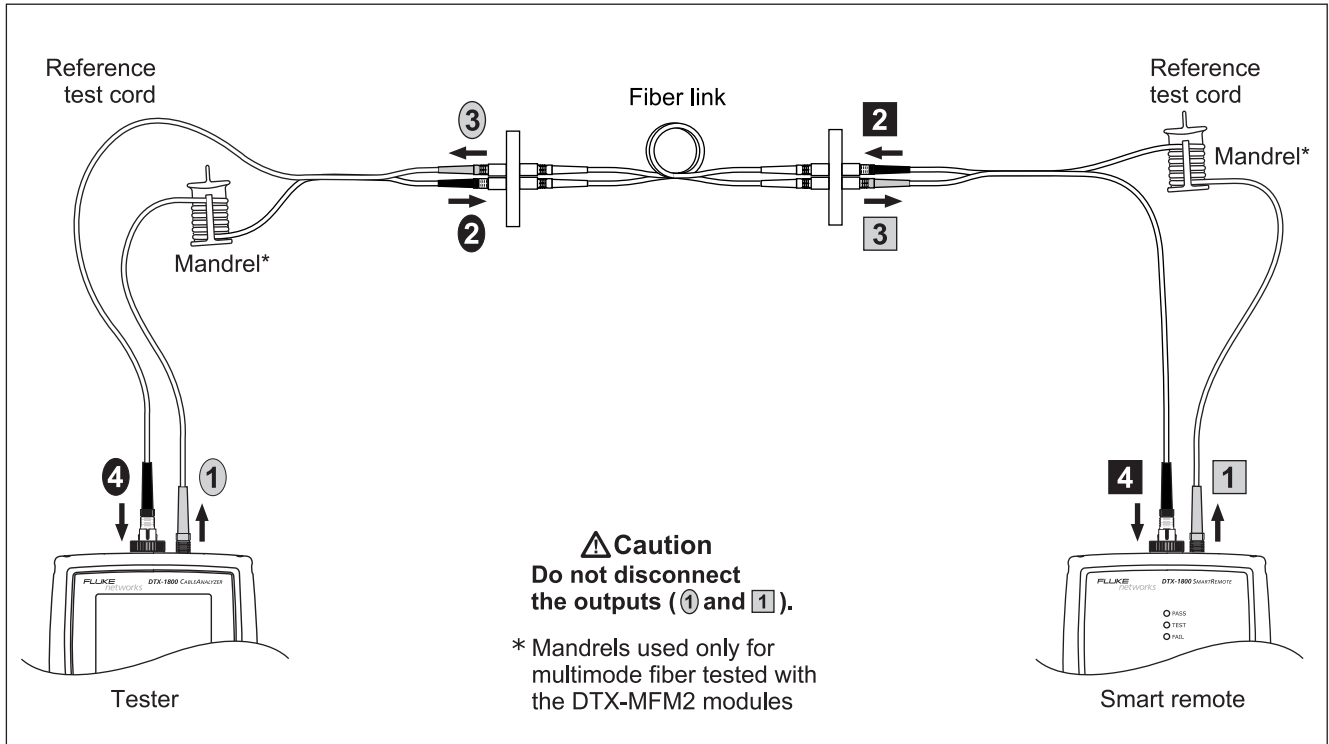

Figure 9. Smart Remote Mode Test Connections (Method B)
- 5 Clean the connectors on the cabling to be tested; then connect to the link. The tester shows test connections for the test method you selected. Figure 9 shows connections for Method B.